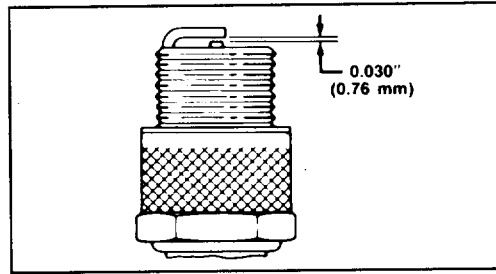

Figure 33
3. Set air gap between electrodes of new spark plug at 0.030" (0.76 mm) (Fig. 33). Next, install spark plug in cylinder head. Tighten plug to 15 ft-lb (20.4 N-m). If torque wrench is not used, tighten plug firmly.